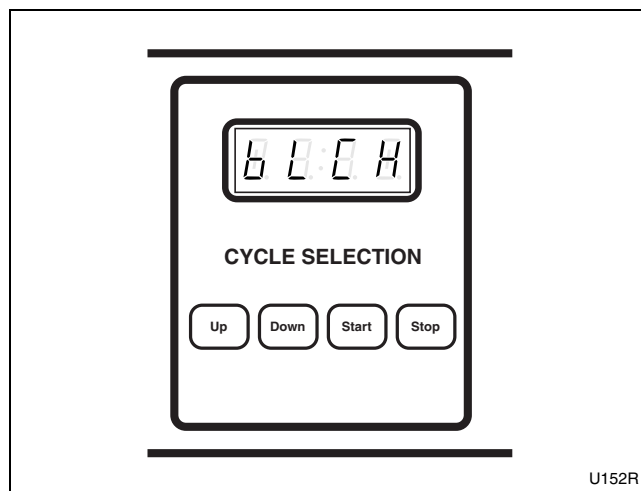

Figure 9
9. **When applicable**, add bleach to container 2 when the display reads “bLCH”. Refer to *Figure 9*.